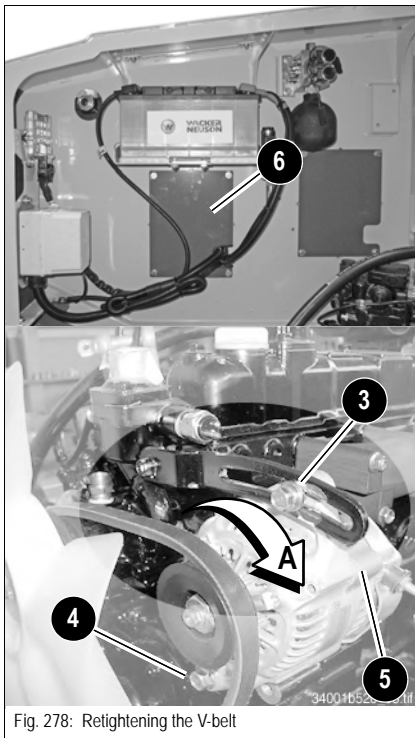

Fig. 278: Retightening the V-belt
- ☞ Use a suitable tool to push the alternator in the direction of arrow **A** until reaching the correct V-belt tension (see fig. 278).